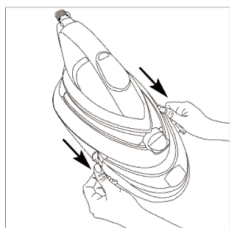

FIGURE 9
1. Pull out the water tank (Figure 9).